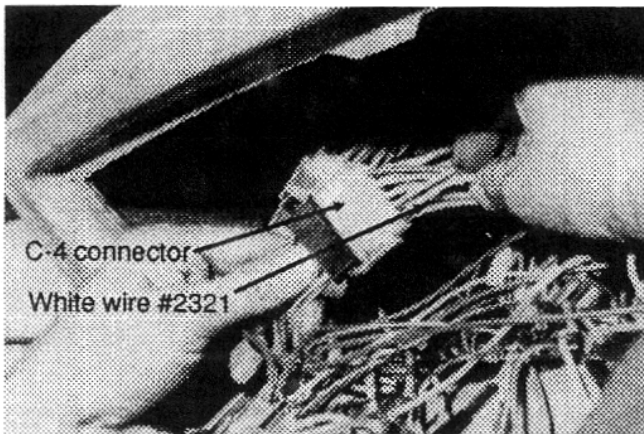

Figure 7
17. Locate white wire # 2321 in connector C-4 located on the left side of dashboard (see fig. 7); remove the wire and its tab connector from connector C-4, and insulate the tab connector with electric tape. Insert in its place wire # 2321 of harness # 06-2401 by running it initially thru the opening located at rear of the warning light switch mounting plate.